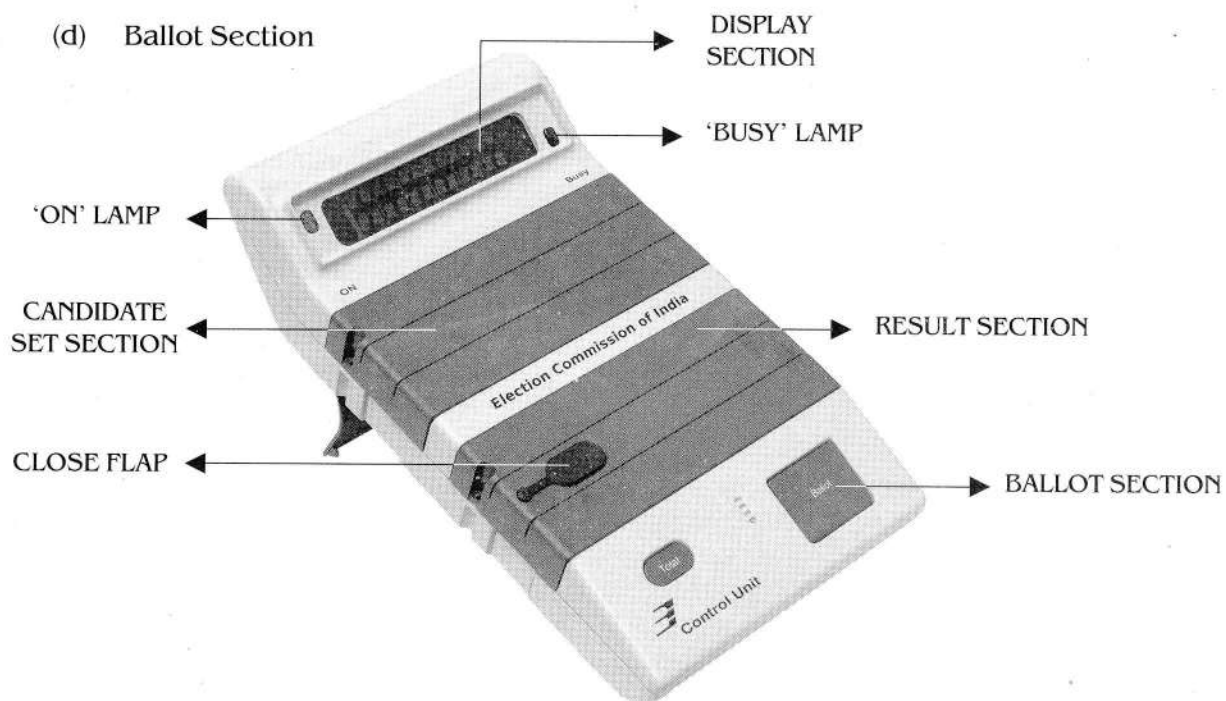
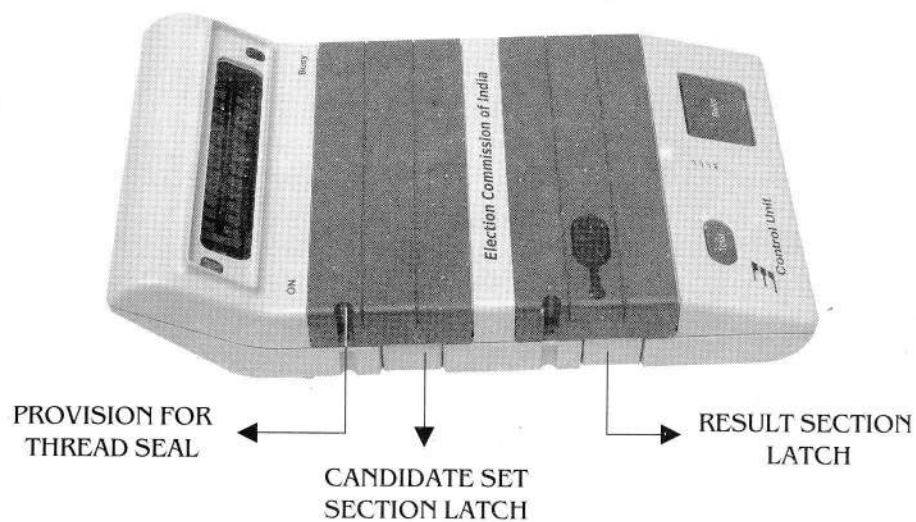

FIG. 6 Front view of Control Unit
FIG. 7 Side view of Control Unit
18. Top portion of the Control Unit consists of 4 sections (Fig. 6 and Fig. 7) :